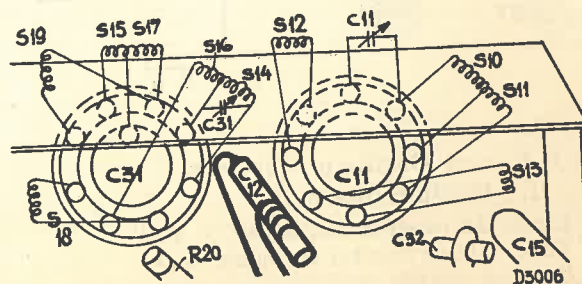

Fig. 3A.
11. Trim C12 for maximum output (see Fig. 3A).